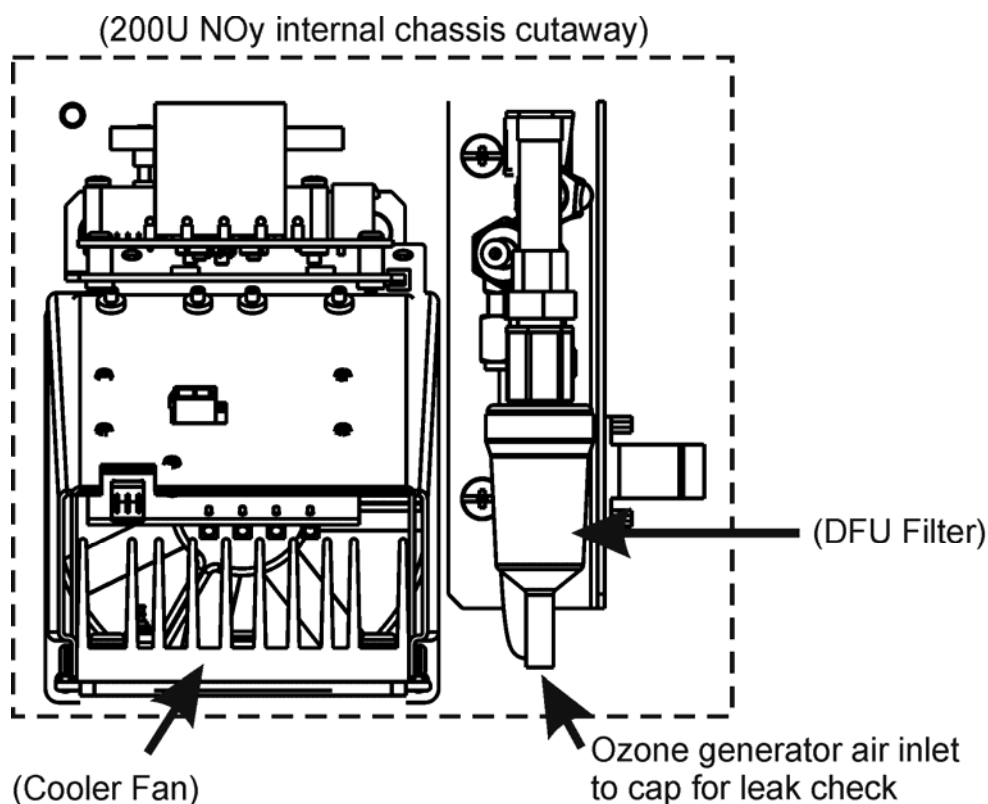

Figure 6. Location of O₃ Generator Air Inlet
2. Cap the sample inlet of the external Converter, the BYPASS OUT port of the 501Y and the ozone generator air inlet (located inside the analyzer, Figure 6).
2. Disconnect the external Pump from the analyzer's rear panel. Cap the sample inlet of the external Converter, the BYPASS OUT port of the 501Y, the ozone generator air inlet (located inside the analyzer, Figure 6), and connect the leak checker to the instrument exhaust port.